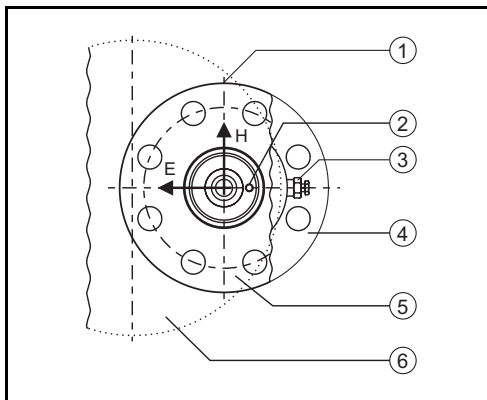

Figure 10.2 Position tank separator / 2" antenna
- Check if the adapter ring (3) is correctly screwed into the H02 antenna housing (5).
- Place the adapter ring with tank separator (5) carefully in the ball valve housing and mind the alignment as described in the notes. Mind the correct position of the gasket. Watch the position of the bleed valve in respect to the flange bolts, and to be in an angle of 90° with the marker on the flange (refer to figure 10.2).
- Place the adapter ring (3) over the end of the 1.5" insert pipe (1)
- Place a gasket on top of the intermediate plate connected to the 1.5" flange (1).
- Place the 2" full bore ball valve (4)
- Check if the adapter ring (5) is correctly screwed into the H02 antenna housing (7).
- Place the adapter ring with tank separator (5) carefully in the ball valve housing and mind the alignment as described in the notes. Mind the correct position of the gasket. Watch the position of the bleed valve of the H02 antenna in respect to the flange bolts, and to be in an angle of 90° with the marker on the flange (refer to figure 10.2).
- Check if the adapter ring (2) is screwed correctly into the H02 antenna housing (4).
- Place the adapter ring with tank separator (4) carefully in the stilling well. Use the adapter ring for alignment and mind the correct position of the gasket. Watch the position of the bleed valve of the antenna in respect to the flange bolts, and to be in an angle of 90° with the marker on the flange (refer to figure 10.2).